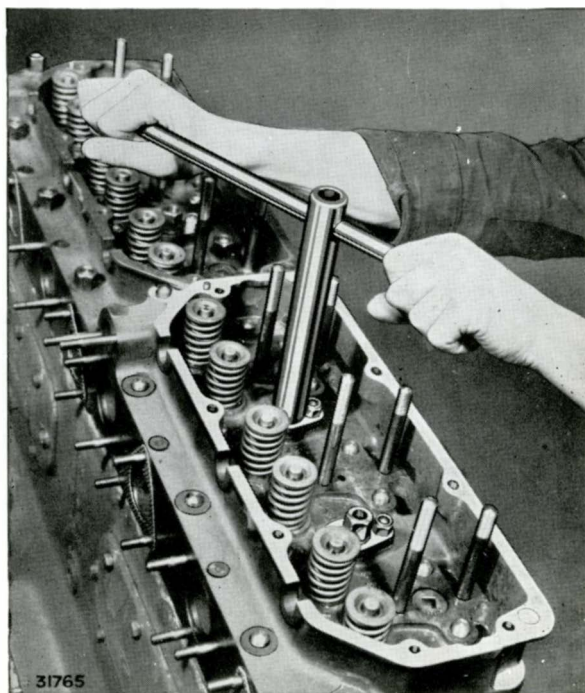

FIG. 17. TIGHTENING LIFTING NUTS
6. Remove all cylinder head nuts and raise the heads by unscrewing the special lifting nuts, Fig. 17. The two lifting nuts are provided for each of the heads to prevent damage to the gaskets when lifting. Both nuts should be screwed evenly as far as they will go, then lift the head off the studs. If the heads are tight on the studs, a further lift can be obtained by screwing long  $\frac{1}{2}$  in. B.S.F. bolts into the lifting nuts.